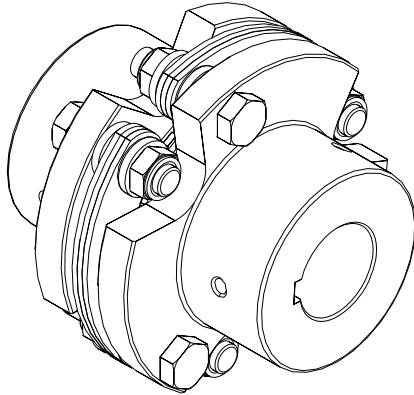
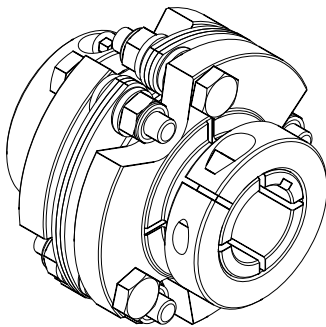

Fig. 1
Fig. 2
3. Inspect hub bores, shafts and keyways making sure there are no burrs. Clean hub bores and shafts. Standard CD coupling clamped and set screw hubs are supplied with slight clearance fit (see catalog). Install hubs on shafts. Place one of the hubs flush with end of shaft. Tighten hub to shaft: If hub is set screw style (Fig 1), see Table 2 on page 3 for proper tightening torque. If installing clamped hub (Fig 2) see assembly details and table on page 3 on page 3.